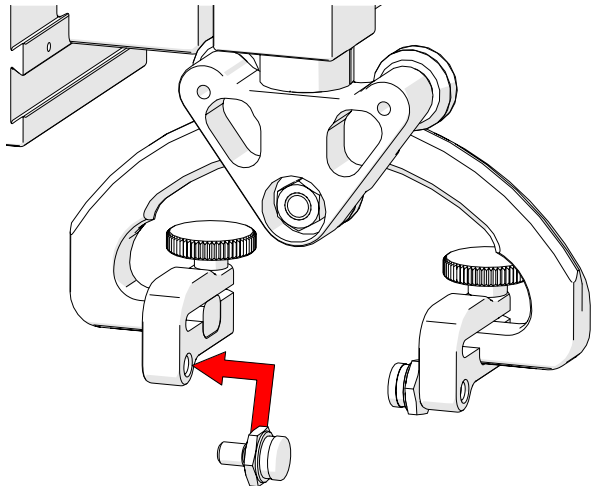

Fig. 225 - Attach pivot buttons
1. Using the supplied 3/8 in wrench (Fig. 51), install the appropriate pivot buttons to the probe holder arms (Fig. 225).